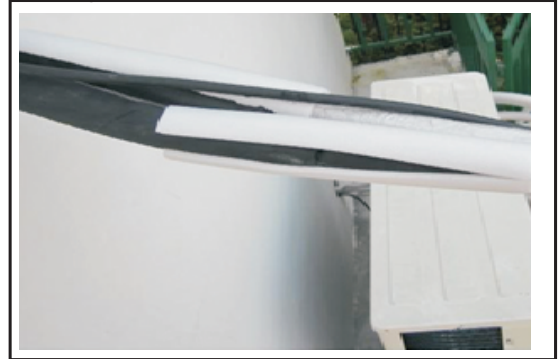

Fig.4.13
9. Then wrap up the connectors with the black insulation material, for the top exposed part, use the white insulation material (supplied in Accessories box) to wrap it up completely as shown in Fig.4.13.